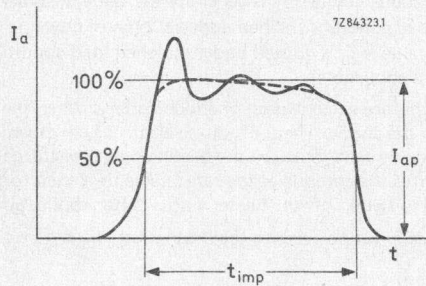

Fig. 1 Current pulse.
- t_{imp} The pulse duration t_{imp} is defined as the time interval between the two points on the current pulse at which the current is 50% of the smooth peak current (see Fig. 1).